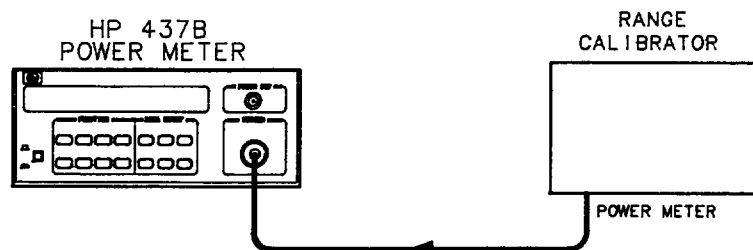

Figure 8-1. Analog Board Troubleshooting Setup
1. Connect the equipment as shown in Figure 8-1.